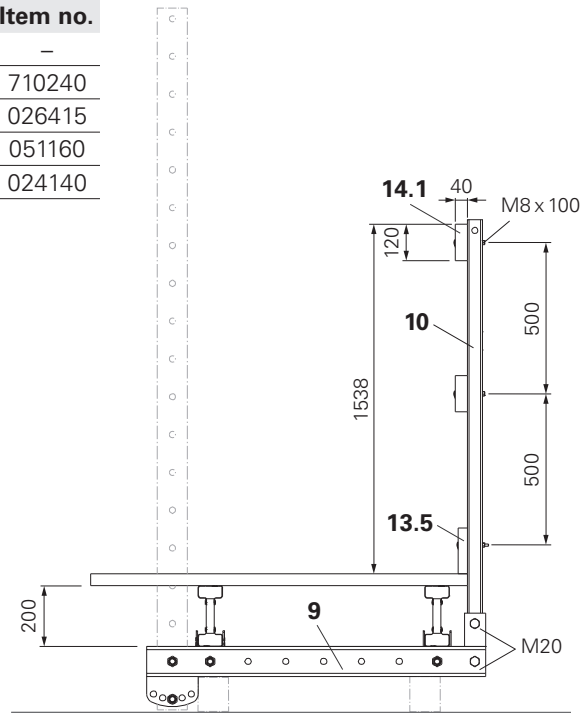

Fig. A1.20
- Loosen the 2 Bolts and Nuts M20 on the holder of the Platform Beam (9) and remove.
- Fix Guardrail Post (10) to the Platform Beam (9) using the 2x Bolts and Nuts M20. (Fig. A1.20)
- Position board (13.5) on the Guardrail Post (10).
- Connect Guardrail Posts and boards using F.H. Bolts M8 x 100 and Nuts M8. (Fig. A1.20)
(Fig. A1.20 + A1.21)
(Fig. A1.20)